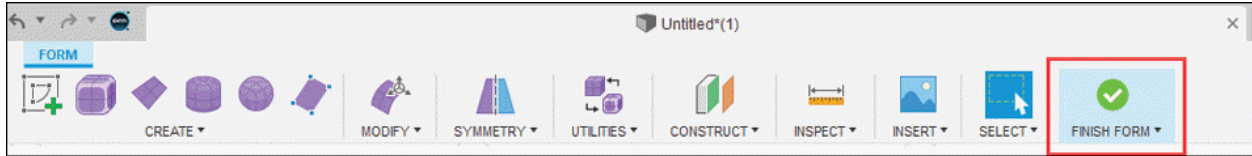

Figure-124. Finish Form button
- Click **Finish Form** button from **Toolbar** to exit the **Form mode** and return to **Model Workspace**; refer to Figure-124.